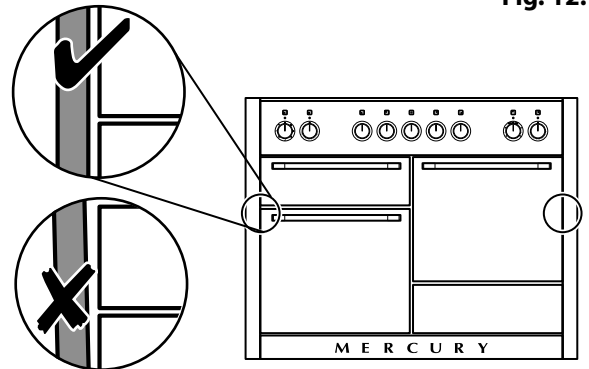

Fig. 12.18
3. Adjust the bottom panel to set the gap between the side panels and doors equally (**Fig. 12.18**). When it is positioned correctly, use a suitable flat open-ended spanner to tighten the bracket screws, and then tighten the bottom panel screws (**Fig. 12.19**) with the allen key provided.